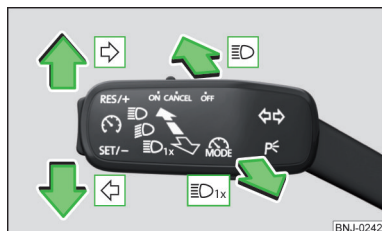

Fig. 55
Control stalk positions » Fig. 55
- Press the control lever all the way into position  or  until it stops » Fig. 55 on page 62.